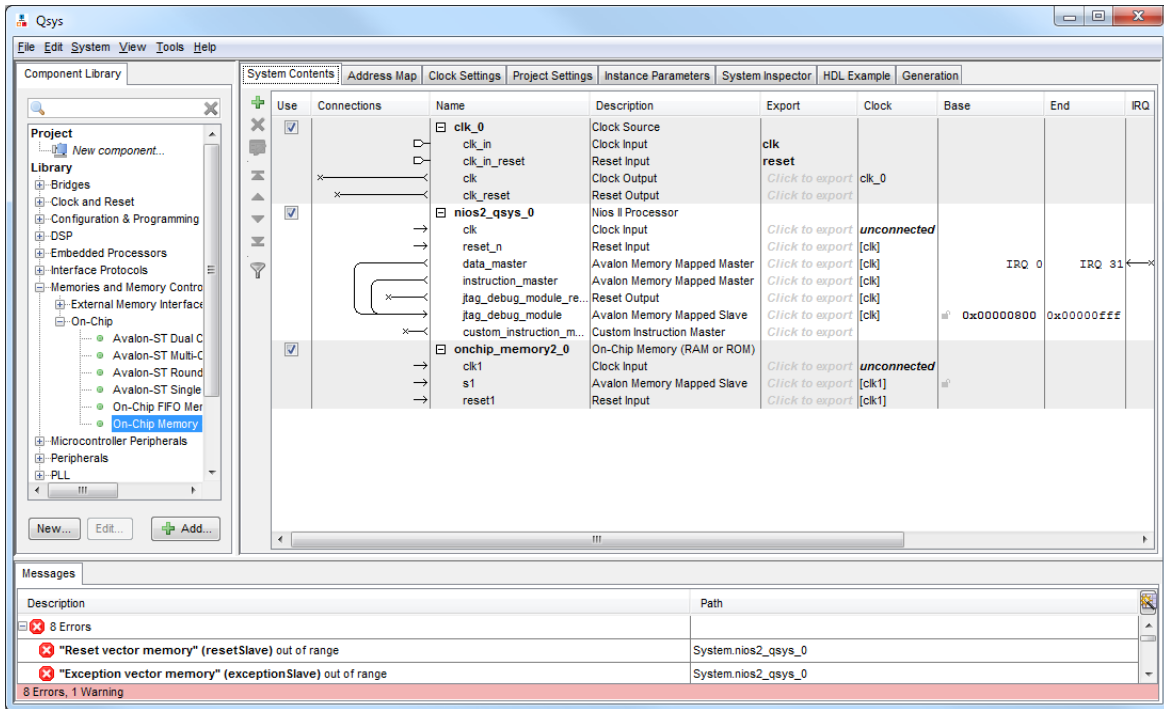
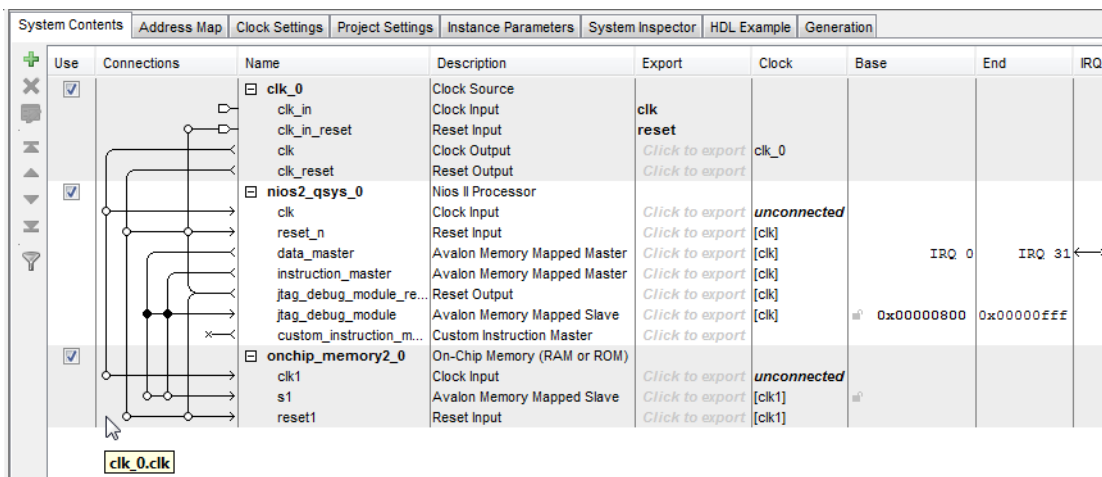

Figure 9. The on-chip memory included on a DE-series board.
Figure 10. Connections that can be made.
- Click Finish, which returns to the System Contents tab as indicated in Figure 9
6. Observe that while the Nios II processor and the on-chip memory have been included in the design, no connections between these components have been established. To specify the desired connections, hover the mouse over the **Connections** area in the window in Figure 9. The possible connections will be displayed. The connections already made are indicated by filled circles and the other possible connections by empty circles, as indicated in Figure 10.